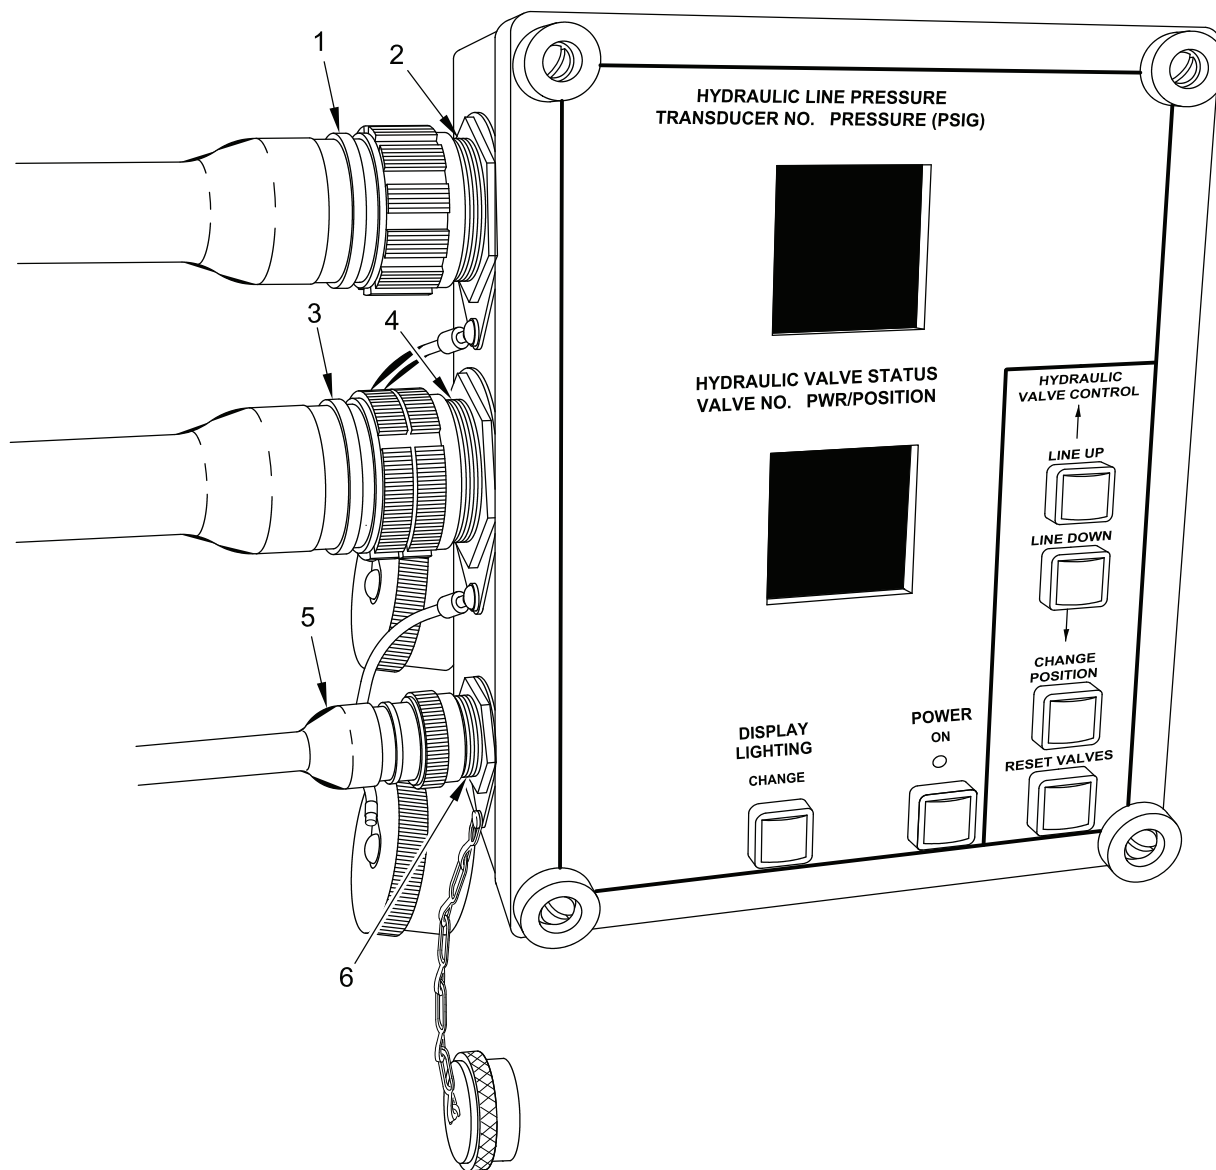

Figure 27. Installation and Removal of Wiring Harness W4 (Umbilical Cable W4).
5. Connect umbilical cable connector W4P1 (Figure 27, item 5) to control box connector J1 (Figure 27, item 6).
6. Connect umbilical cable connector W4P2 (Figure 27, item 3) to control box connector J2 (Figure 27, item 4).
7. Connect umbilical cable connector W4P3 (Figure 27, item 1) to control box connector J3 (Figure 27, item 2).